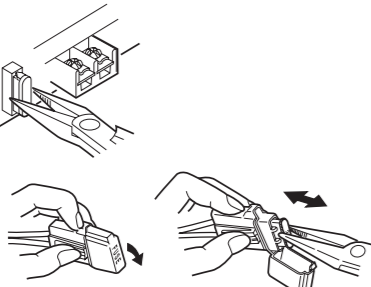

Figure 10 / 图 10 / 그림 10
3. If the fuse should blow, check that the wiring is correct. If it is, replace the fuse with a new one with the same amperage rating as the original one. (Figure 10)